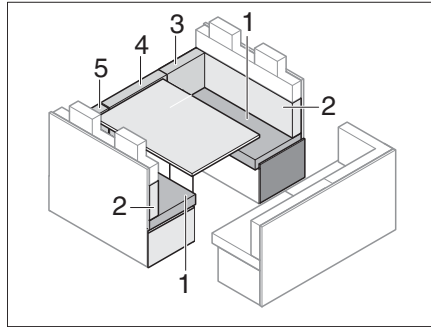

Fig. 175 Prior to conversion
- Remove the back cushions (Fig. 175,3,4 and 5) and lay them aside.